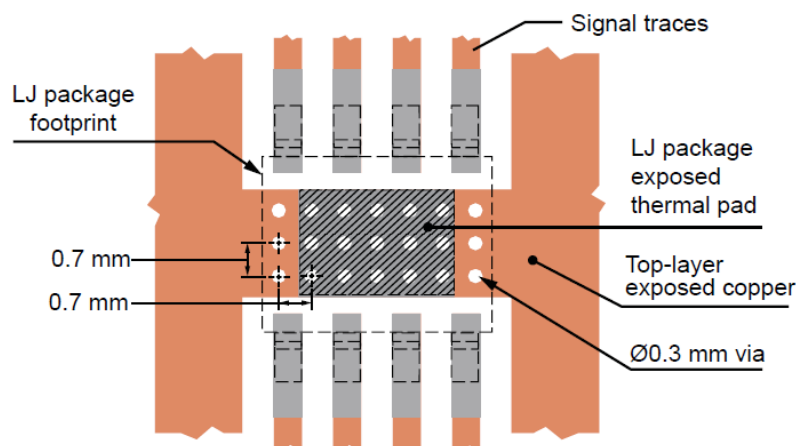

fig.21 Suggested PCB layout for thermal optimization(maximum available bottom-layer copper recommended)
- The greater the quantity of thermal vias, the better the dissipation. If the expense of vias is a concern, studies have shown that concentrating the vias directly under the device in a tight pattern, as shown in fig21, has the greatest effect.